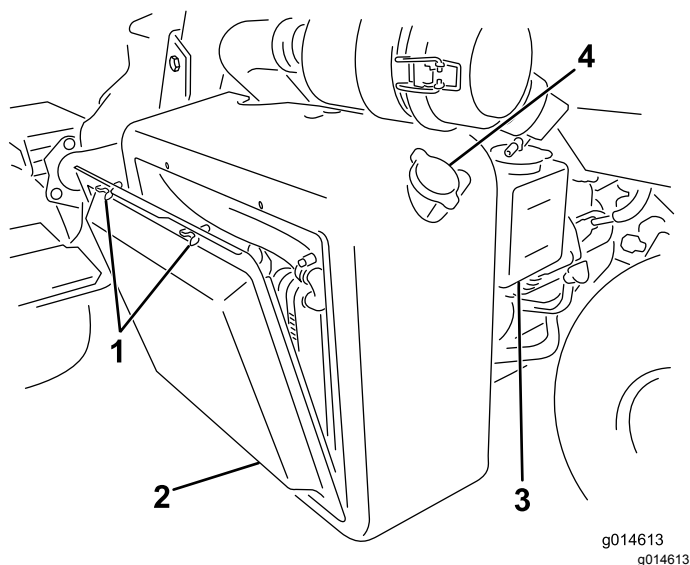

Figure 49
1. Remove the radiator screen (Figure 49).